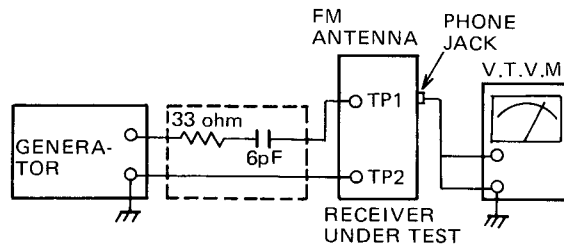

Figure 7
3. 2nd OSC. ALIGNMENT (Fig. 7)
4. 1st IF ALIGNMENT (Fig. 7)
5. SW. Ant Coil ALIGNMENT (Fig. 7)